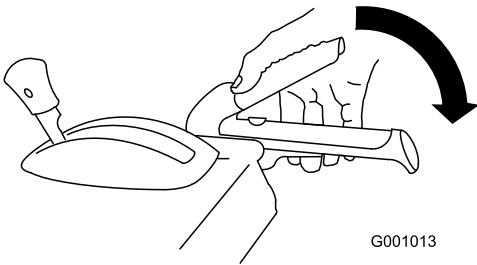

Figure 33
1. To engage the auger/impeller drive, squeeze the right (auger/impeller) lever to the handgrip (Figure 33).